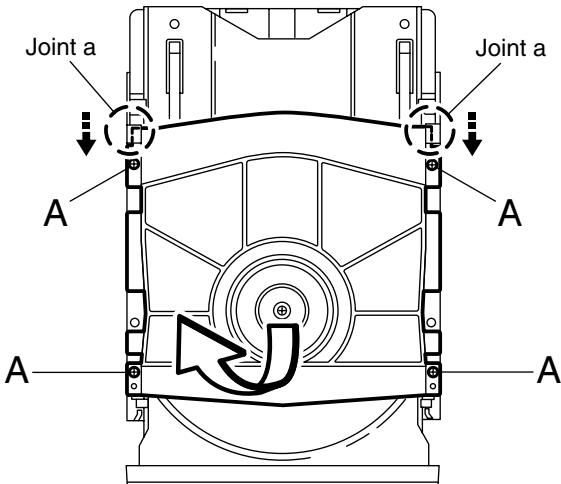

Fig.1
■ Removing the clamper assembly (See Fig.1)